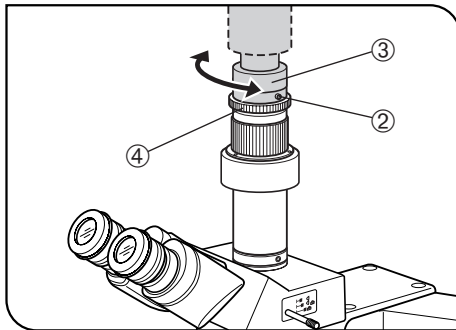

Fig. 8
Loosen clamping screw ② on the upper part of the zoom lens, rotate the camera mount adapter ③ and focusing ring ④ together, and tighten screw ② again. (Fig. 8)